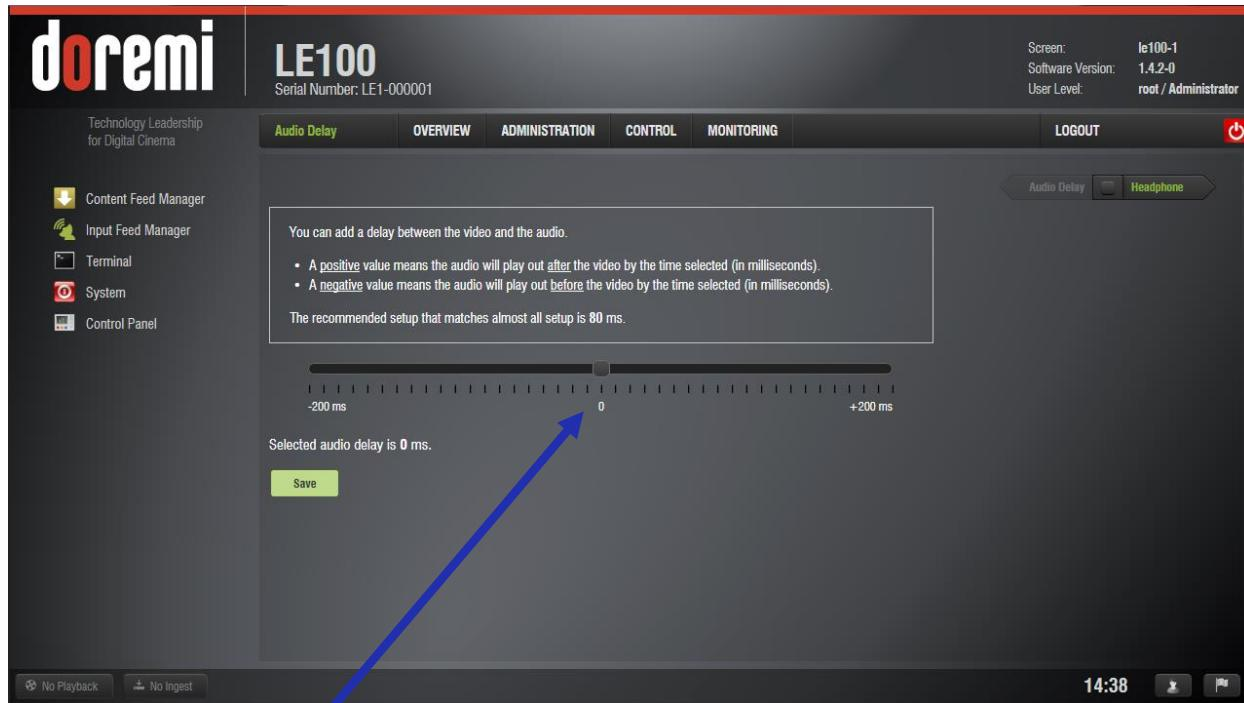

Figure 14: Audio Delay
- Use the audio delay slider to adjust the delay (see Figure 14).